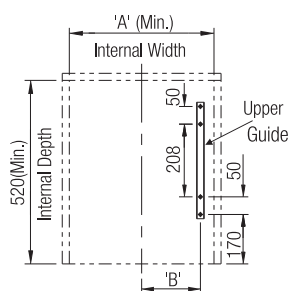

Fig. 1
1. Fix the Upper Guide to the Bottom Face of the top panel as shown in Fig.1.